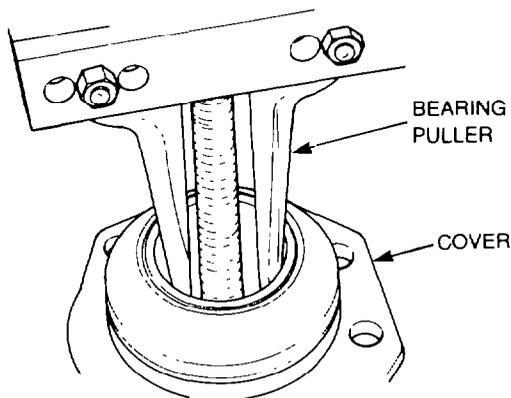

Figure 282 — Cover Bush
- aa. Remove the bronze bush from the cover using a suitable bush remover (see Fig. 282).